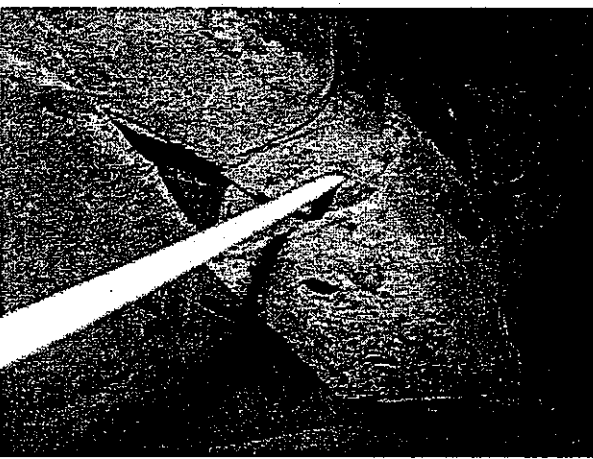

Figure 8 - Drain Hole
7. Insert the long spray nozzle with NOXUDOL 700 into the drain hole located on the bottom of frame up to the 300mm (12 inches) mark. Then spray NOXUDOL 700 while drawing out the nozzle. Spray two times. See Figures 8 and 9.